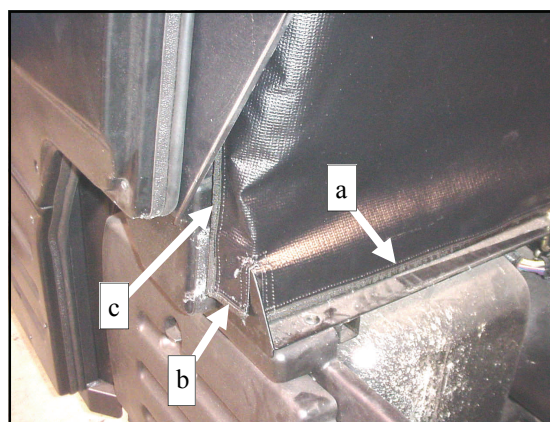

Fig. 7.2 View of driver's side lower rear corner
7.2 Secure the vinyl filler by applying self-adhesive backed velcro to the vehicle where needed. Note: self-adhesive backed velcro should be applied to a clean, dry surface at room temperature. See fig. 7.2 for general locations. At location “a”, use a long piece along the bottom; at location “b”, use a small piece; and at location “c”, use a long piece straight up to rear window. Repeat “b” and “c” for opposite side. Attach the vinyl filler to the newly installed hook velcro on the vehicle.